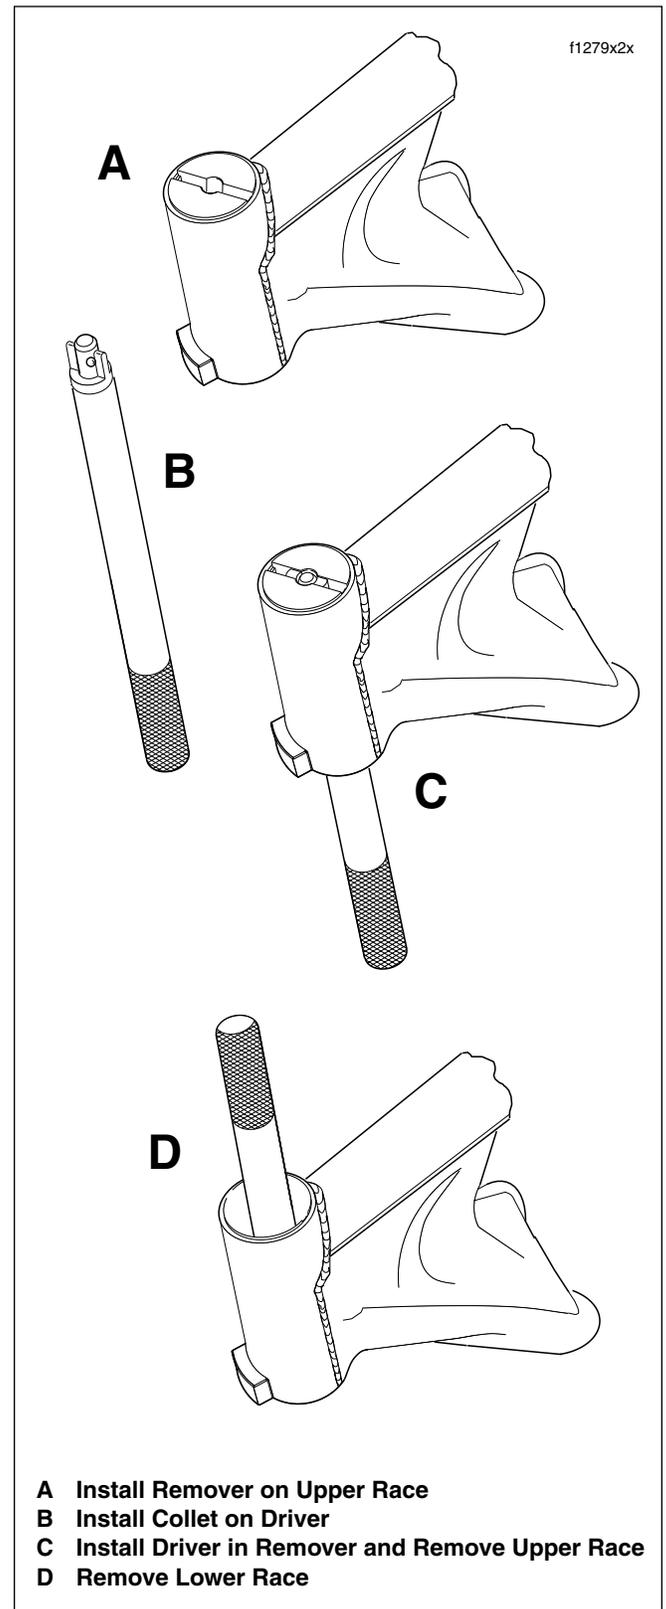

Figure 2-89. Remove Upper and Lower Steering Head Bearing Races
1. With the tapered side down, seat the two-piece remover tool on the upper bearing race leaving a gap in the middle. See Figure 2-89.